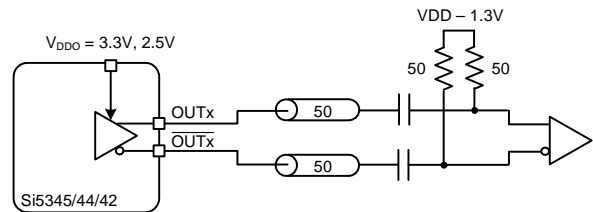

Figure 19. Supported Differential Output Terminations
The differential output drivers support both AC coupled and DC coupled terminations as shown in Figure 19.
- Differential Normal Swing Mode:** When an output driver is configured in normal swing mode, its output swing is selectable as one of 7 settings ranging from 200 mVpp_{se} to 800 mVpp_{se} in increments of 100 mV. The output impedance in the Normal Swing Mode is 100 Ω differential. Any of the terminations shown in Figure 19 are supported in this mode.
- Differential High Swing Mode:** When an output driver is configured in high swing mode, its output swing is configurable as one of 7 settings ranging from 400 mVpp_{se} to 1600 mVpp_{se} in increments of 200 mV. The output driver is in high impedance mode and supports standard 50 Ω. PCB traces. Any of the terminations shown in Figure 19 are supported in this mode.